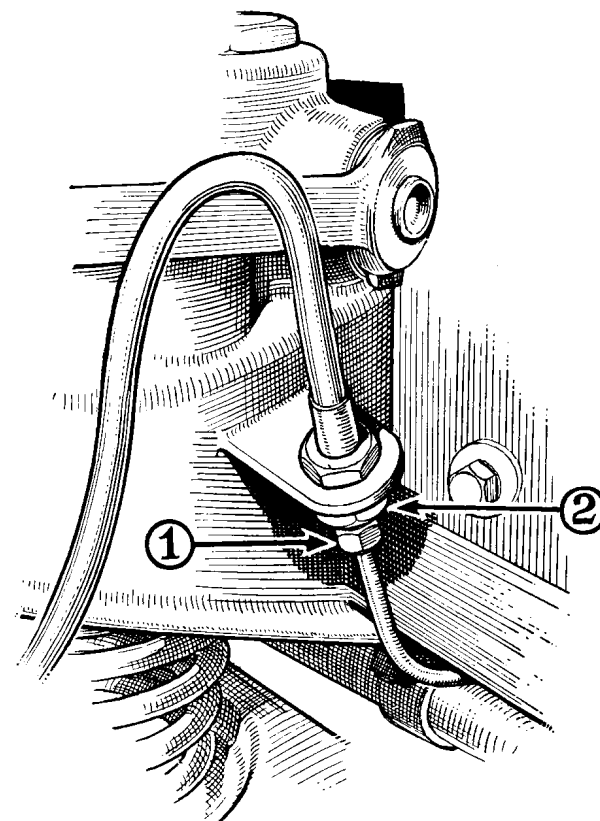

Fig. M.13.
Unscrew the metal pipe line union nut (1) (Fig. M.13) from its connection to the hose.